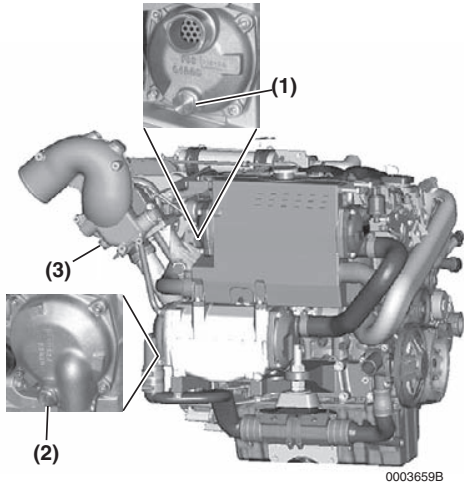

Figure 9
Zinc anodes are located in the heat exchanger **(Figure 9, (1))** and the charge air cooler **(Figure 9, (2))**.
A zinc anode is also located in the optional high-rise elbow **(Figure 9, (3))**